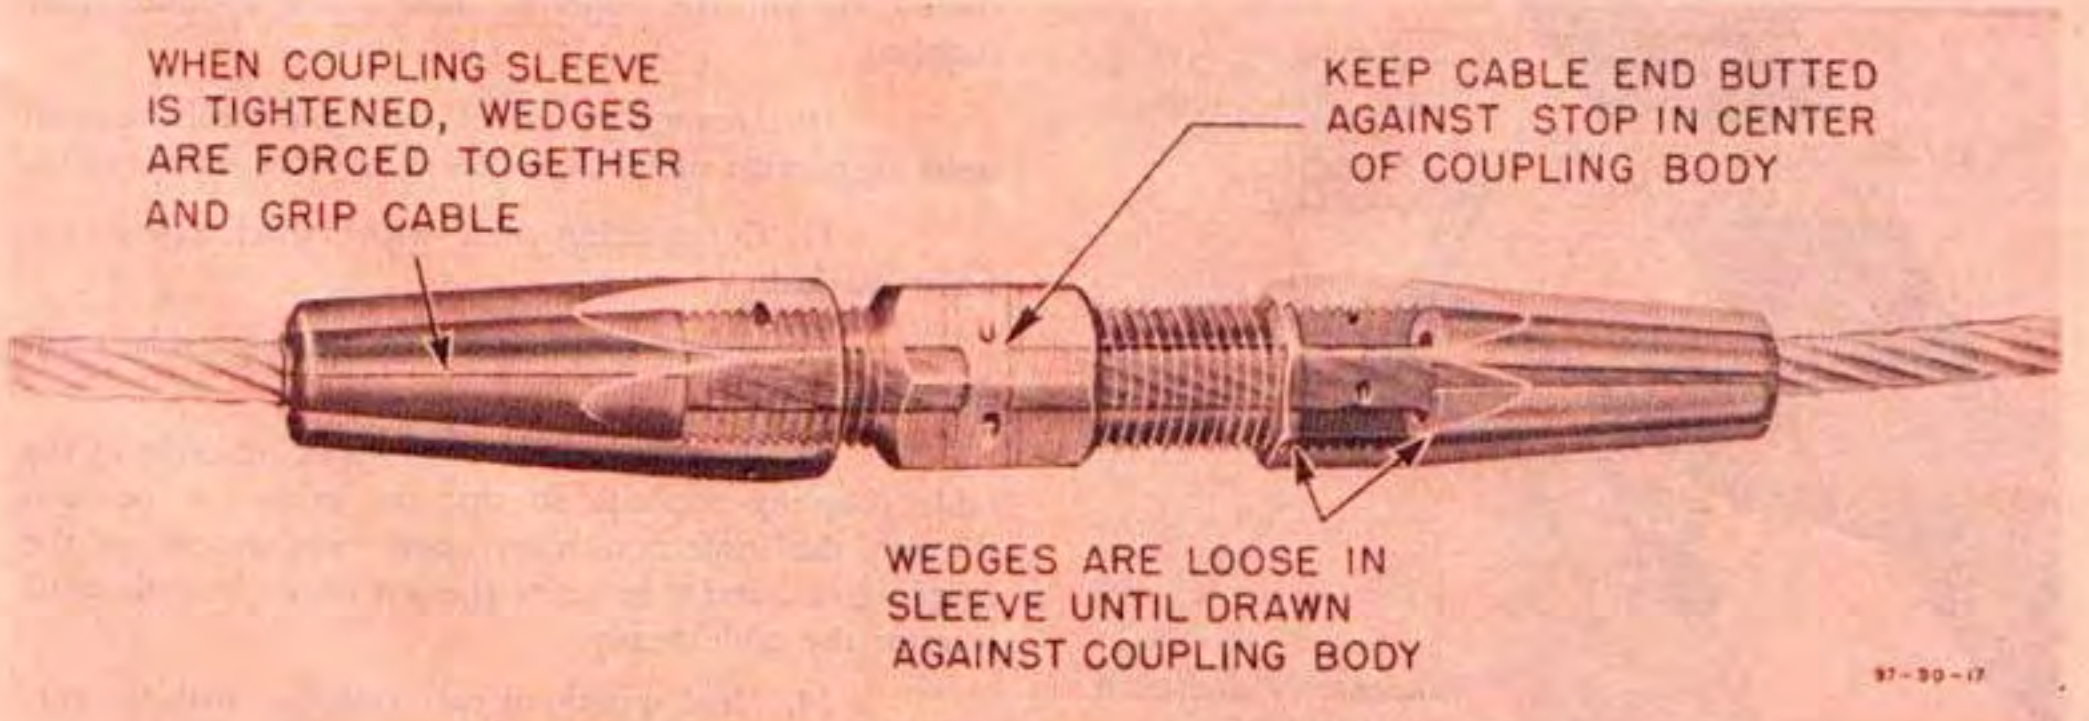

Figure 98—Cable Coupling Detail
(a) CABLE COUPLING.—The coupling consists of a pair of chucks fitted on a single spindle. One chuck clamps on each end of the broken cable in such a way that the spindle bridges the broken section of the cable. (See figure 98.) As each end of the spindle has a right-hand thread, the coupling must be securely safetied to prevent the
6. Insert one end of broken cable into coupling so that the cable can be seen through the inspection hole (*figure 98*), insert two wedges in coupling nut on cable, and then screw nut on the spindle until it grips cable firmly.
8. Connect all of the cable turnbuckles, and then adjust each turnbuckle so that exactly three threads are visible outside each end of the turnbuckle barrels. If this is not possible, two couplings and a length of cable must be used. (*See paragraph (4) (c).*)
5. Insert one end of the broken cable into each coupling so that the cable can be seen through the inspection hole (*figure 98*), insert two wedges in each coupling nut, and then screw the nut on spindle until it grips the cable firmly.